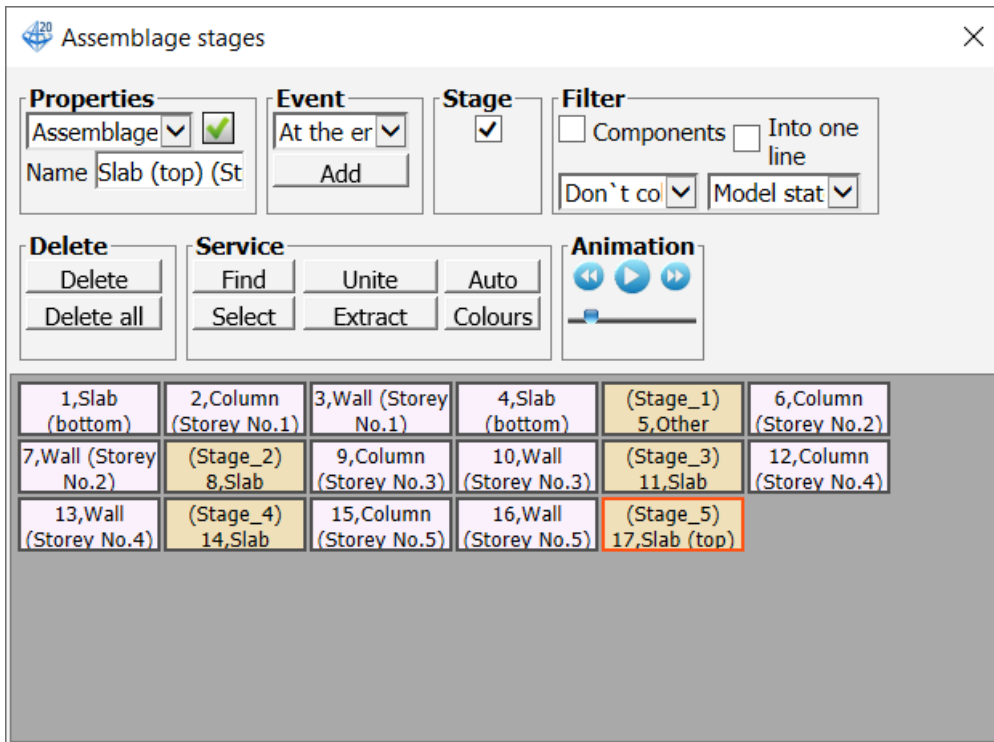

Figure 23.19. **Assemblage stages** dialog box
- ⇒ In the **Assemblage stages** dialog box (see Fig. 23.19), in the **Service** area, click the **Auto** button.
- ⇒ In the similar way, select the **Stage** option for the following events: **8,Slab (bottom) (Storey No.3)**; **11,Slab (bottom) (Storey No.)**; **14,Slab (bottom) (Storey No.5)**; **17,Slab (top) (Storey No.5)** (see Fig. 23.19).